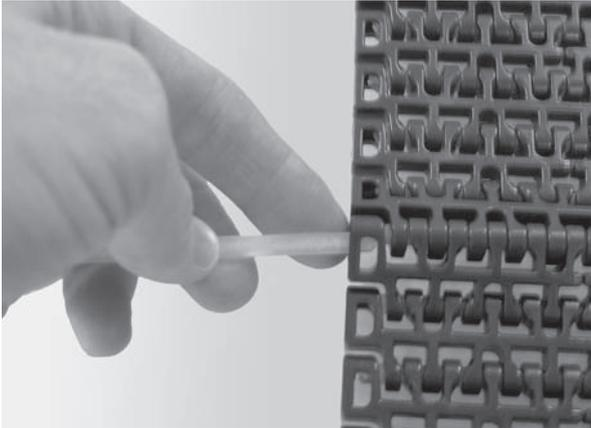

Figure 34
- Use a second belt rod of the same size to push on the opposite end of the belt rod. (Figure 34).